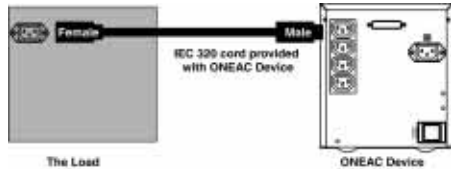

fig. 6: Connecting the ON Series m UPS to the Load
- Using the IEC 320 (M/F) cord supplied with the UPS, connect the device to the UPS IEC 320 (F) output connectors. See fig. 6.